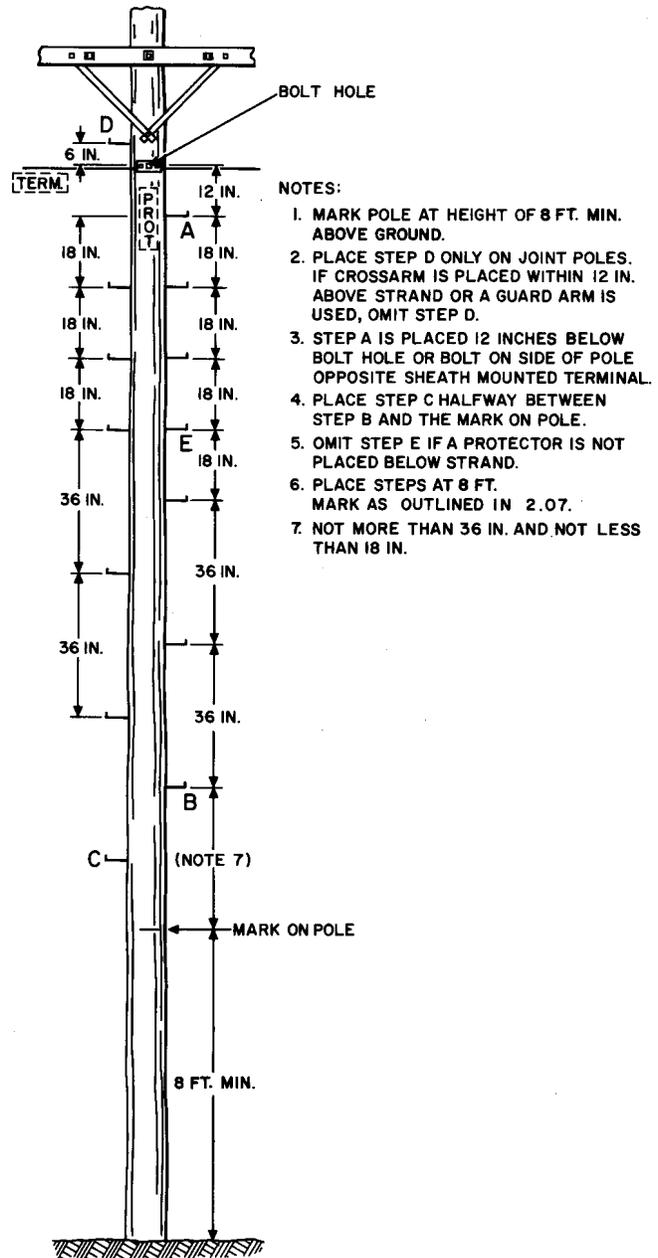

Fig. 7—Strand Mounted Terminal
5.01 The bolt hole for the suspension bolt, suspension screw, guy bolt, or extension fixture bolt is used as a reference point in the stepping arrangement shown in Fig. 7, involving distribution terminals. On tall poles not carrying a cable, use the bottom crossarm bolt or multiple-type wire attachment as a reference point.